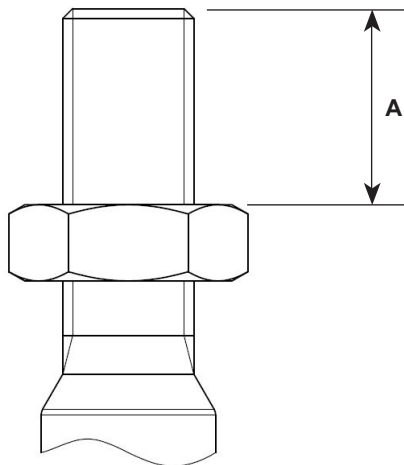

Fig 3. Thread engagement
- Set the valve stem lock nut at the correct Thread Engagement dimension "A" (Figure 3 and Tables on page 15 and 16) for the relevant valve and actuator combination.